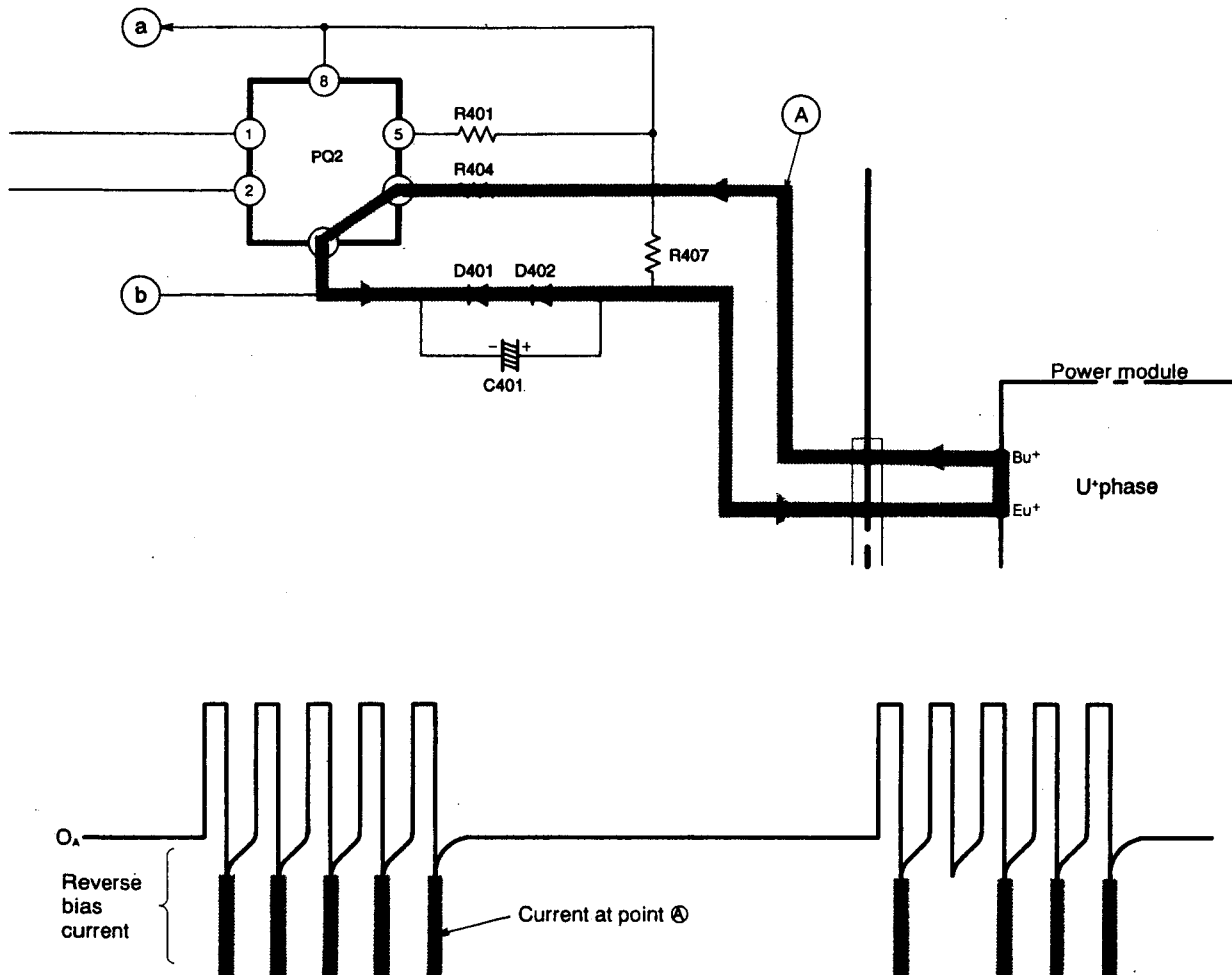

Fig. 7-3 Waveform of Transistor Base Current (Reverse Current at Point A)
- When pin ③ of the micro computer then goes "Lo" → "HI" a photocoupler between PQ2 pins ① and ② turns off and the reverse bias current flows to C401 → power module's Eu⁺ terminals → Bu⁺ terminals → R404 → PQ2 to cut off the upper arm transistors. (Fig. 7-3)